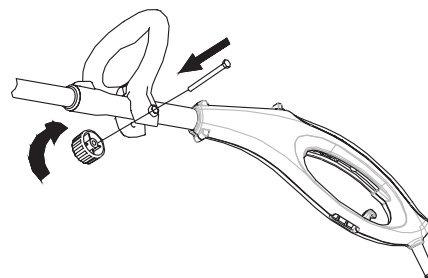

Fig. 4
3. Tighten the adjustment knob and bolt. (Fig. 4.)